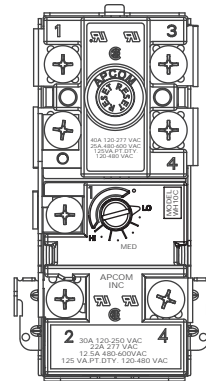
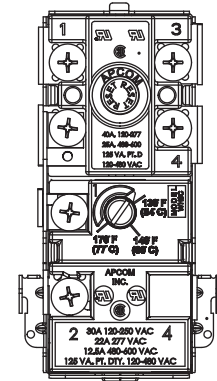
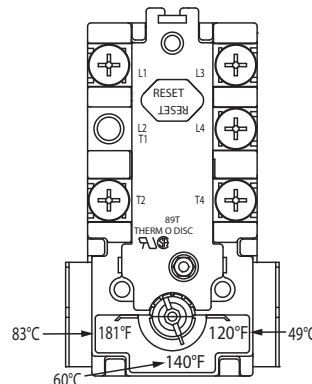
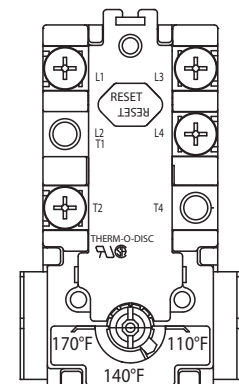

FIGURE 5
FIGURE 6
FIGURE 7
FIGURE 8
3. Depress the red manual reset button on each Thermostat/ECO combination control. (See Figure 5, Figure 6, Figure 7, or Figure 8)
A-8 Circuit thermostats have three designated set points; LO, MED and HI. (See Figure 5). The approximate equivalent temperatures for these three settings are: LO = 140°F (60°C), MED = 160°F (71°C) and HI = 181°F (83°C). These thermostats are set from the factory at the LO 140°F (60°C) setting. The over temperature device (ECO high limit) attached to each thermostat has a manual reset. The C-2 circuit thermostat is adjustable from approximately 130°F (54°C) to 170°F (77°C) (See Figure 6). These thermostats are set from the factory at
A-8 circuit thermostats are adjustable from approximately 120°F (49°C) (lowest setting) to 181°F (83°C) (highest setting) (See Figure 7). The C-2 circuit thermostat is adjustable from approximately 110°F (43°C) to 170°F (77°C) (See Figure 8). These thermostats are set from the factory at approximately the 140°F (60°C) setting. The over temperature device (ECO high limit) attached to each thermostat has a manual reset.